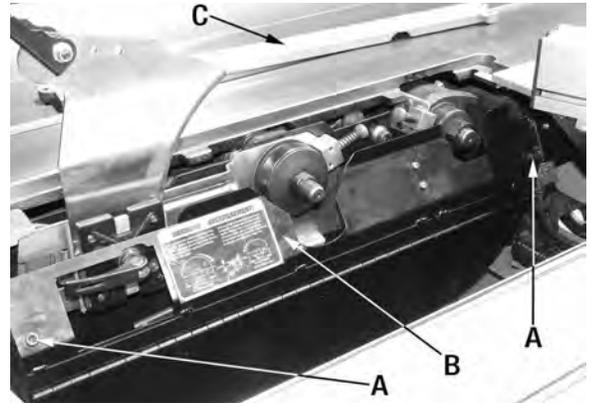

FIGURE 44
2. Loosen the two cap screws (A) Fig.44 which secure the lower blade guard (B). Flip the lower blade guard down to gain access to the main spindle.
3. Remove the standard table insert (C) Fig.44 from the table top.
8. Reinstall table insert (C) Fig.44.
6. Reinstall table insert (C) Fig.44.